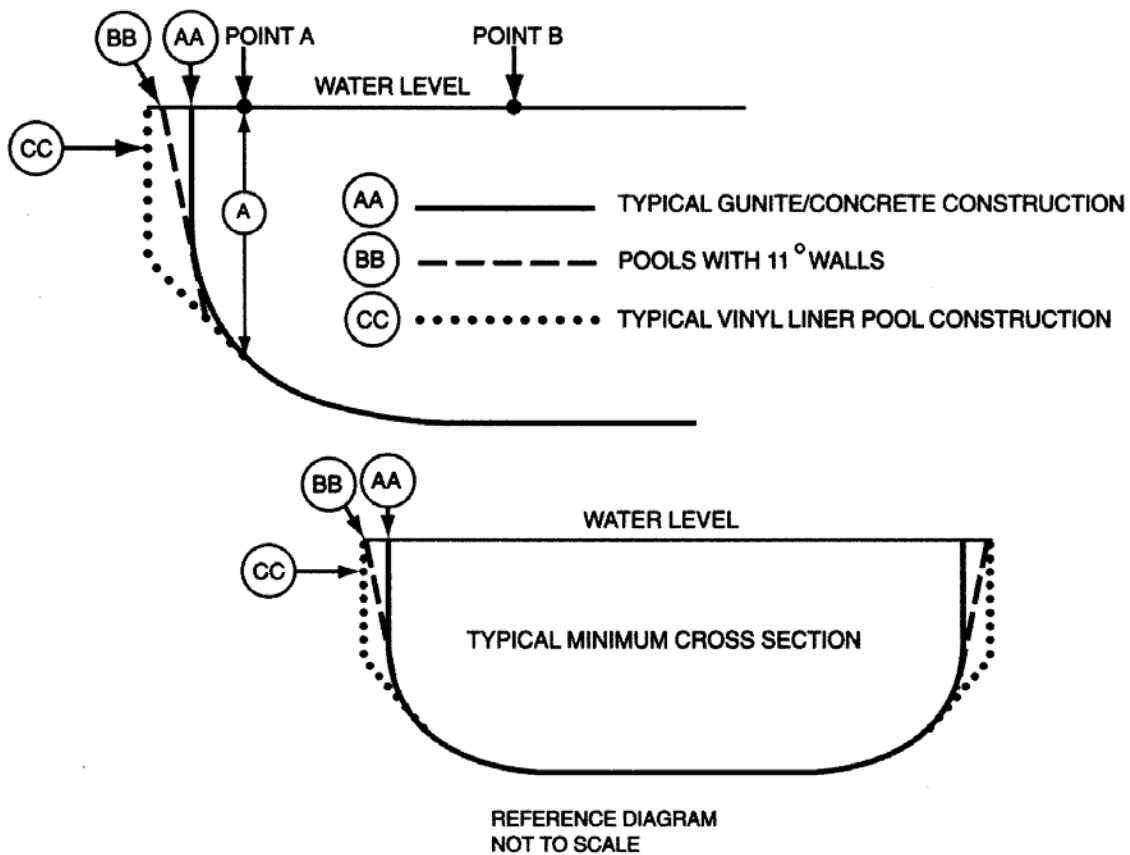

Figure 2- Typical pool design configurations
5.3.2 As shown in figure 2, at the depths of (a) and (b), the walls are permitted to join the floor.
5.9.4 Typical pool design configurations. Vinyl liner, shotcrete, fiberglass and concrete constructions shall conform to, but are not limited to, the typical pool configurations shown in figure 2.